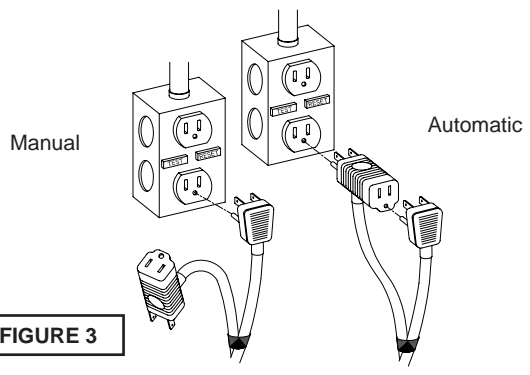

FIGURE 3
- 6.) Figure 3 shows a typical connection for pumps with the wide angle float and piggy-back plug. For manual and automatic operations.